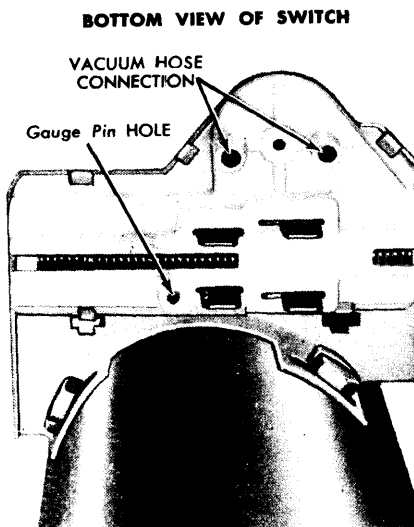

FIG. 13—Starter Neutral Switch
2. To adjust the switch, loosen the retaining screws that locate the switch on the steering column (Fig. 13).
4. Rotate the switch actuating lever until the gauge pin (No. 43 drill shank end) can be inserted into the gauge pin holes (Fig. 13).